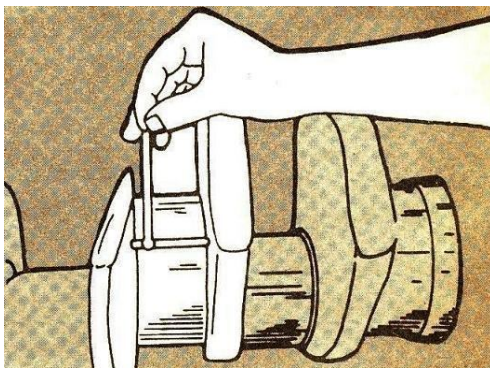

Fig. 1-15. Check the thrust flanges for wear
5. Measure and check visually crankshaft thrust flange at Number Six main bearing. See Fig. 1-15 and Table 1-1. If the surfaces are damaged, regrind the crankshaft and install oversize thrust rings.